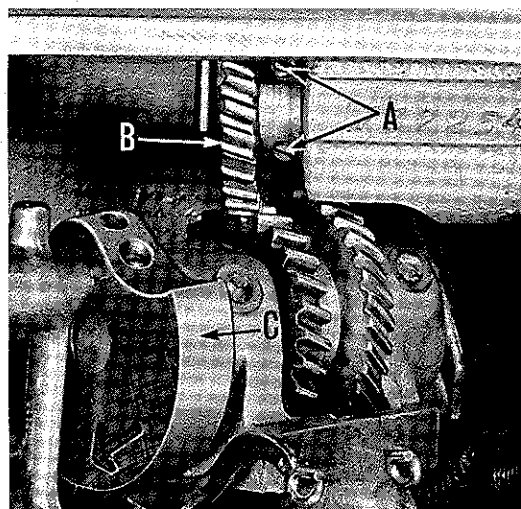

Fig. 4
The needle should be timed so that, on its downward stroke, it is 1/4 inch from the center of the plunger when the plunger reaches its highest point of travel. To accomplish this adjustment, loosen the screws (A, Fig. 4) in the driving gear (B) and remove the gear. Turn the handwheel in operating direction until the plunger just reaches its highest position. Do not continue to turn the handwheel after the plunger has first reached its highest position. Now, turn the needle crank (C) in the direction of its arrow until the needle, when on its downstroke, is within approximately 1/4 inch of the center of the plunger.